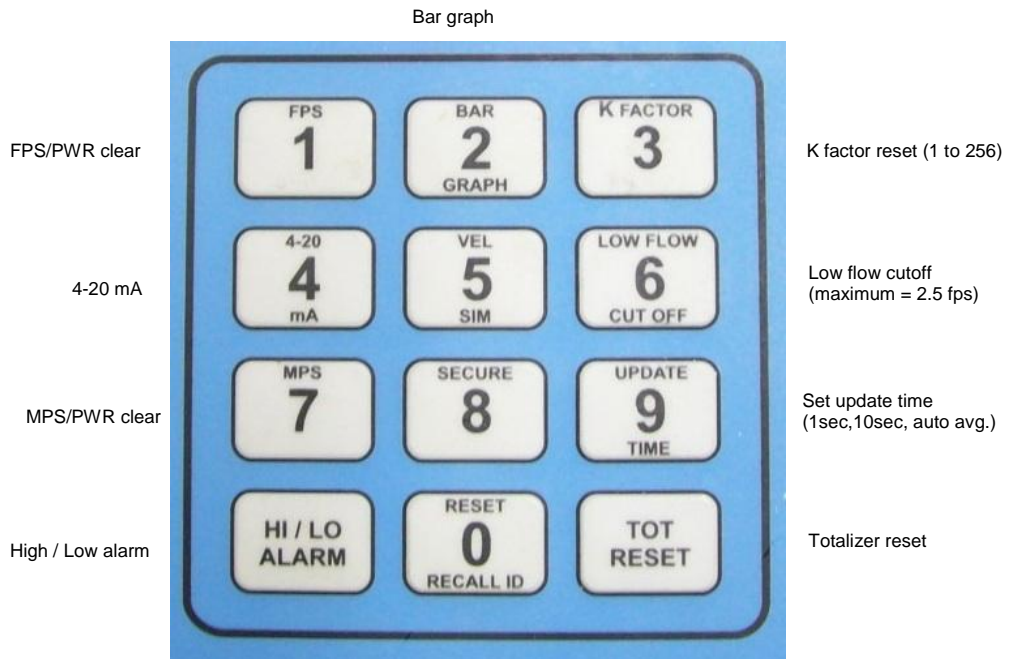

Figure 2-10. Display unit keypad
- Figure 2-10 on page 2-21 provides a visual representation of the toggle menu.